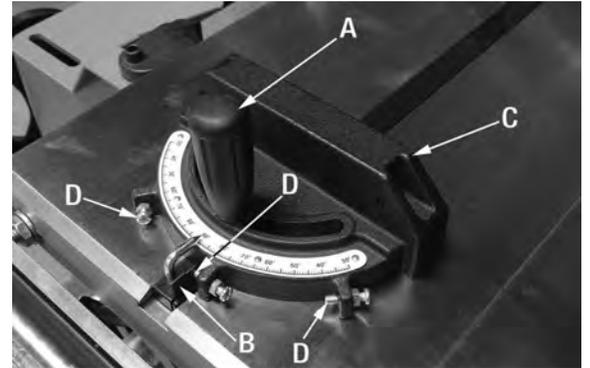

FIGURE 27
The miter gauge shown in Fig.27 gets installed on the right side of the blade by sliding the miter gauge bar into the table T-slot as shown. To operate the miter gauge, loosen lock knob (A) Fig.27, pivot the positive stop plate (B) out of the way and then pivot the miter gauge body (C) to the desired angle and retighten lock knob (A).
If you desire a preset positive stop such as  $0^{\circ}$  or  $45^{\circ}$  setting, loosen lock knob (A) Fig.27, pivot the positive stop plate (B) out of the way and slightly pivot the miter gauge body (C). Once you get close to the desired angle, reposition the positive stop plate (B), continue to rotate the miter gauge body until the positive stop plate comes in contact with the positive stop screw (D) as shown, once the preset angle is set, retighten lock knob (A).